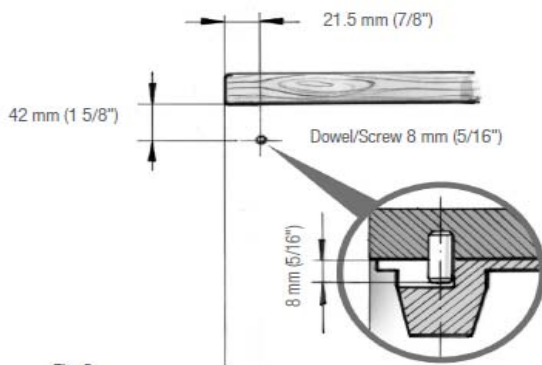

Fig. 9
2. Insert the positioning dowel as shown in Fig. 9.
5. Make sure the end bracket is pushed against the front dowel as shown in Fig. 9.